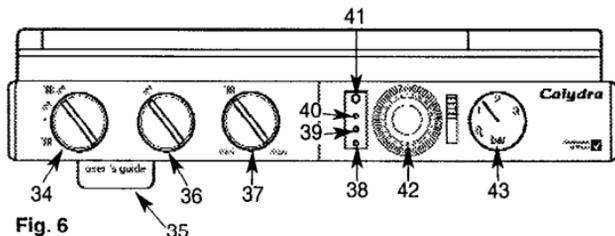

Fig. 6
To be able to supply hot water, the selector switch (34 fig. 6) must be in either on  or  position. This will be confirmed by the green indicator light  (38 fig. 6).
The hot water temperature in the mini cylinder can be adjusted between 40°C and 60°C using control knob (36 fig. 6).
The safety solenoid (3a fig. 7) and the first stage solenoid (3b fig. 7) open together to allow gas to the burner. The ignition sequence begins and a continuous high speed spark ignites the gas. As soon as a flame is detected the orange indicator bulb  (39 fig. 6) will light and the second stage solenoid (3c fig. 7) opens to allow the full gas rate. If a flame is not detected, after 8 seconds, the safety solenoid and the first stage solenoids close and shut off the gas. The red lockout indicator bulb  (40 fig. 6) will light.
dependant upon to the position of the DHW temperature adjustment knob (36 fig. 6). This system anticipates the changes of temperature in the secondary heat exchanger and ensures accurate temperature regulation.
The ignition sequence begins and a continuous high speed spark ignites the gas. As soon as a flame is detected the orange indicator bulb (39 fig. 6) will light and the burner will remain on low rate until the TSS® control thermistor (28 fig. 7) is satisfied. If a flame is not detected, after 8 seconds, the security and first stage solenoids close and shut off the gas.
The red lockout indicator bulb (40 fig. 6) will light.
To be able to supply heating, the selector switch (34 fig. 6) must be in "III 🔥" (heating and hot water position) or "IIII" (heating only position). This will be confirmed by the green indicator light ○ (38 fig. 6).
As soon as a flame is detected the orange indicator bulb 🔦 (39 fig. 6) will light.
The red lockout indicator bulb 🔦 (40 fig. 6) will light.
**NB** It is possible to override the 3 minute delay by pressing the RESET button (41 fig. 6).